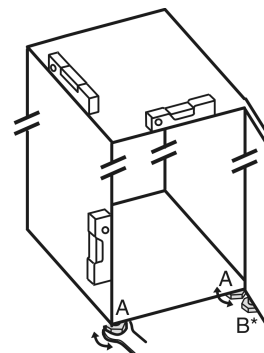

Fig. 4
- ▶ Unscrew the adjustable feet Fig. 4 (A) using the open-end wrench provided and a spirit level until the appliance is firmly aligned and level.
► Unscrew the adjustable foot *Fig. 4 (B)* at the swap bearing block using the open-end wrench provided until it rests on the floor.
► Turn the adjustable foot *Fig. 4 (B)* another 90°.